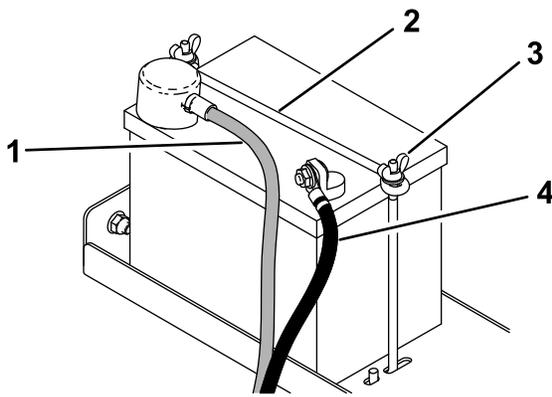

Figure 36
3. Remove the negative battery cable from the battery (Figure 36).
4. Remove the positive battery cable from the battery (Figure 36).
5. Remove the 2 wing nuts, securing rod, and the battery (Figure 36).
1. Place the battery on the platform and secure it using the 2 wing nuts and the securing rod (Figure 36).
2. Install the positive battery cable to the battery (Figure 36).
3. Install the negative battery cable to the battery (Figure 36).